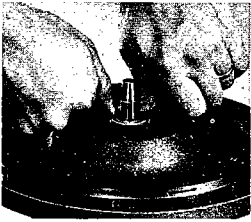

FIGURE 4
6. Insert new seal seat. For easy assembly coat OD of seal rubber (either a cup or an O-ring) with special grease provided in small container. Do not use any other oil or grease. Push seat all the way down into cavity. Seat must not be cocked relative to shaft. Be sure face of seal stays absolutely clean - wipe surface with soft, clean cloth if necessary. (see Figure 4)